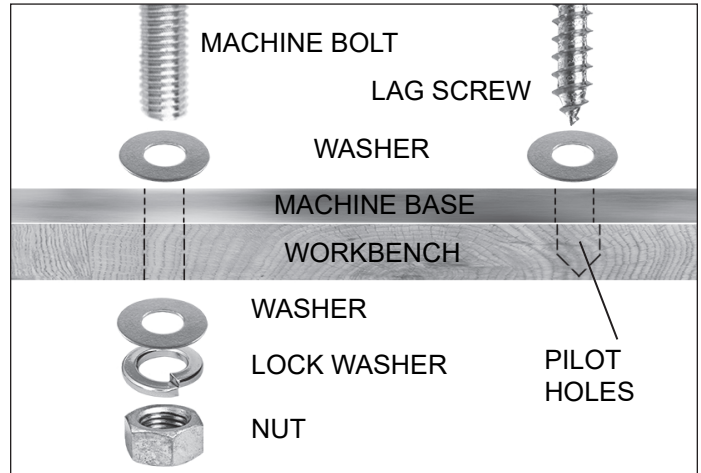

FIG. 1
1. To determine the best working location for your sander, position the motor assembly on your stand or bench. Once satisfied, use a short pencil to mark the work surface through the 4 mounting holes located in the sander's Motor Base (B), and also the 4 mounting holes in the base of the Sanding Arm Bracket (S).
6. Mount the motor base (B) and bracket (S) assemblies onto your work surface with your hardware. Fully tighten the hardware to secure the parts in place. Figures 1 & 2.